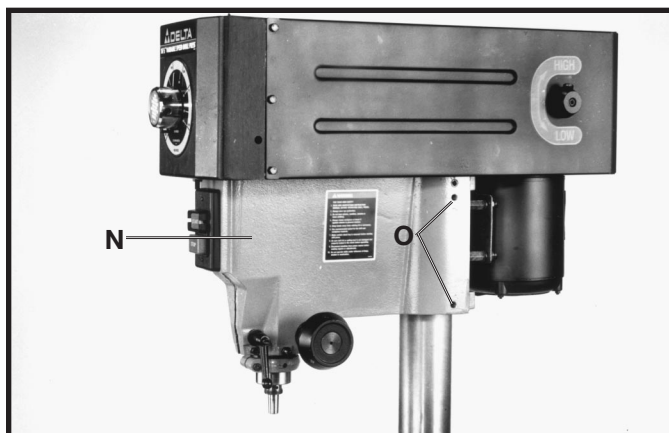
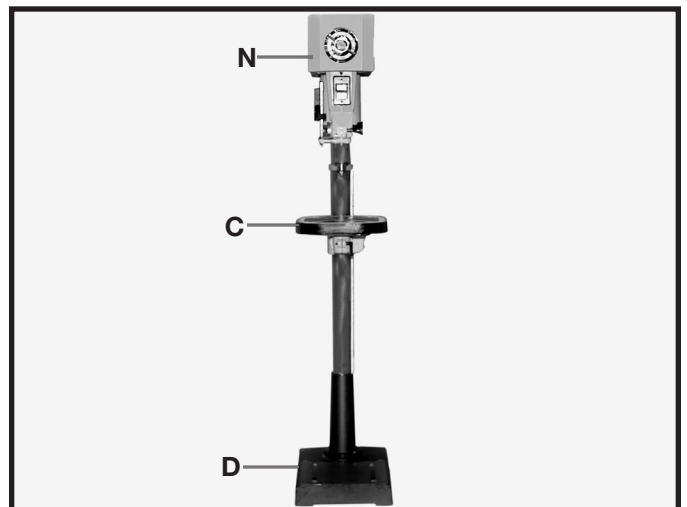

Fig. 14
Fig. 14A
10. Place the drill press head (N) Fig. 14, onto the column as far as it will go. Align head (N) Fig. 14A, to table (C) Fig. 14A, and base (D) Fig. 14A, and tighten the two head locking screws (O) Fig. 14 with the 5mm wrench supplied.